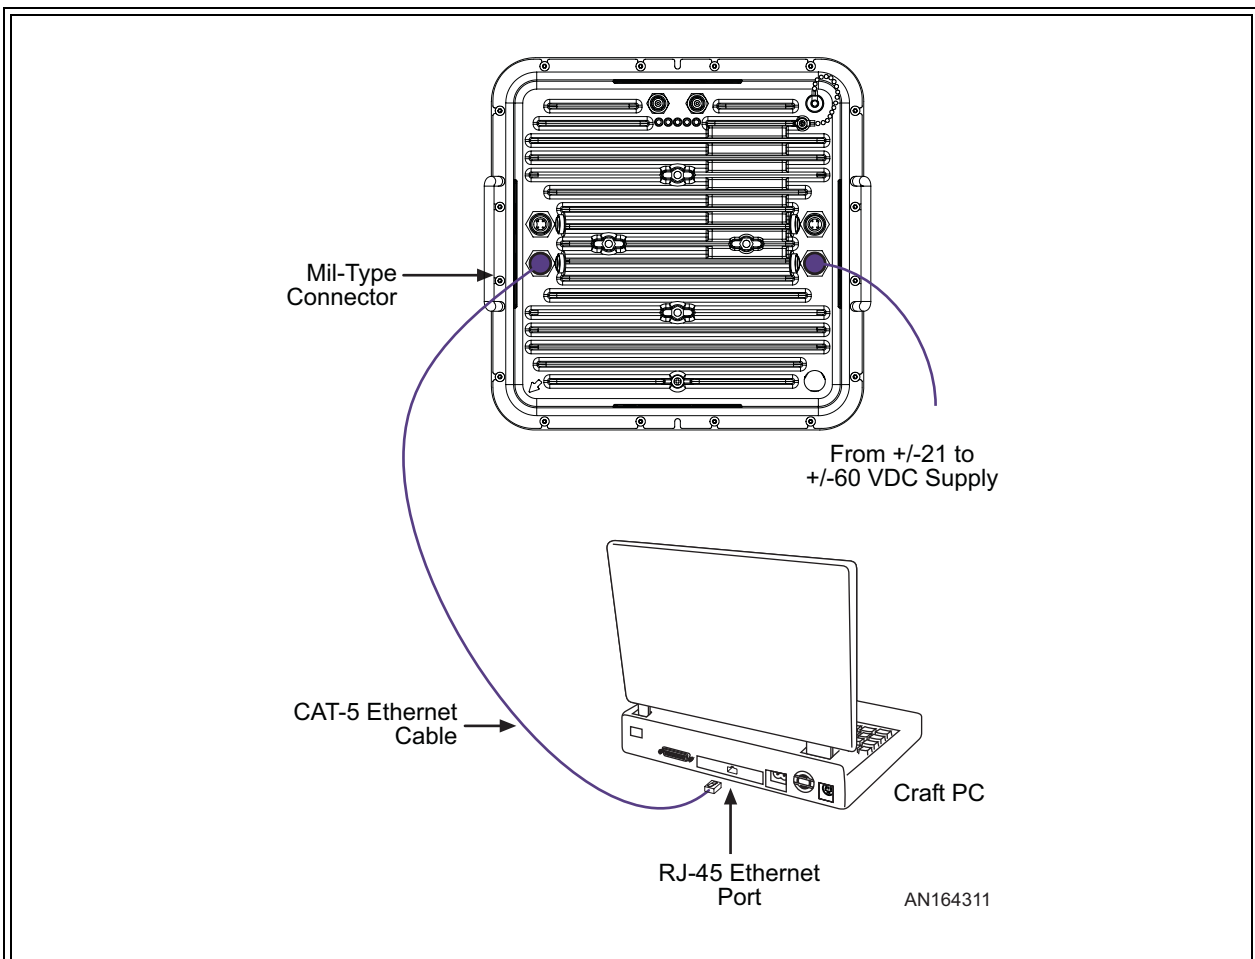

Figure 4-2 Aeras WaveLink Configuration Setup
The equipment used to configure the Aeras WaveLink is a Craft PC with 10/100 Ethernet port and cable, equipped with any current web browser and Adobe Acrobat Reader software. Figure 4-2 shows how to connect the Craft PC and power to the Aeras WaveLink for initial configuration.
- 4 Using a factory-supplied ethernet cable, connect an Ethernet-port equipped Craft PC to the Aeras WaveLink as shown in Figure 4-2.
- 6 Using a factory-supplied power cable, connect an external power supply to the Aeras WaveLink as shown in Figure 4-2.